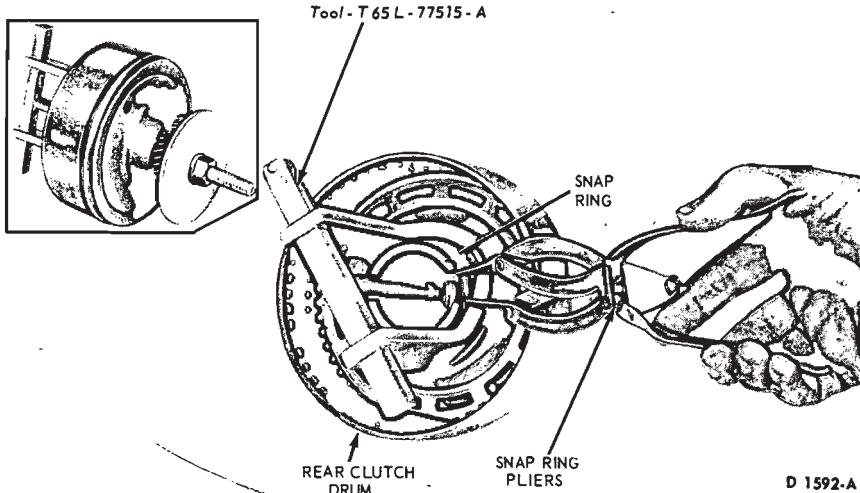

FIG. 30—Removing Rear Clutch Spring Snap Ring
2. Compress the spring with the tools shown in Fig. 30 and remove the snap ring.
14. Install the tool on the spring retainer as shown in Fig. 30. Compress the clutch spring, and install the snap ring. While compressing the spring, guide the retainer to avoid interference of the retainer with the snap ring groove. Make sure the snap ring is fully seated in the groove. When new composition clutch plates are used, soak the plates in automatic transmission fluid for 15 minutes before they are assembled.